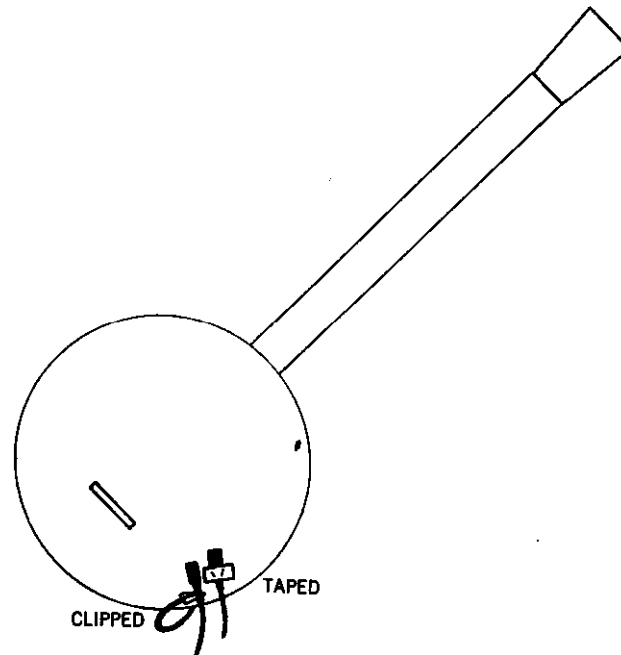
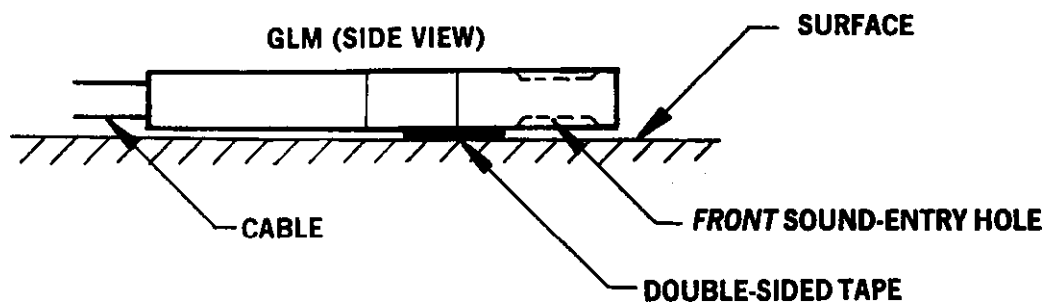

Fig. 2. Miking a banjo with a GLM-100.
Fig. 3. Use double-sided foam tape to mount a GLM on a banjo head. Also use masking tape (do not cover sound-entry holes).
1. For the most natural sound, clip the supplied GLM-UM Universal Mount to a banjo tension rod, and clip the other end of the mount to the GLM strain relief. Place the microphone about 1 to 2 inches in from the rim, 1 inch over the drum head, as in Figure 2.
2. For more isolation and more gain-before-feedback, tape the GLM directly to the drum head as follows: Put some double-sided tape on the GLM on the side marked FRONT (as in Fig. 3). Tape the GLM to the banjo head about 1 to 2 inches in from the rim, with the FRONT of the GLM aiming at the head. Tape the GLM to the head with masking tape or drafting tape, taking care not to cover the sound-entry hole (as in Fig. 2).